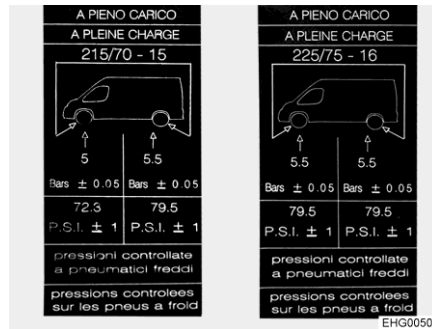

Fig. 145 Tyre pressure information sticker on B column (example)
- ▷ Information stickers with the required tyre pressure are attached to the inside of the B column (see Fig. 145).